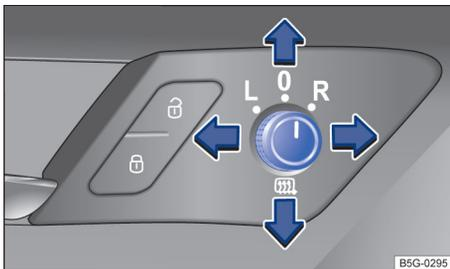

Fig. 86 In the driver door: Adjusting knob for the outside mirrors.
- Turn the rotary knob in the driver door → fig. 86 to the desired position: